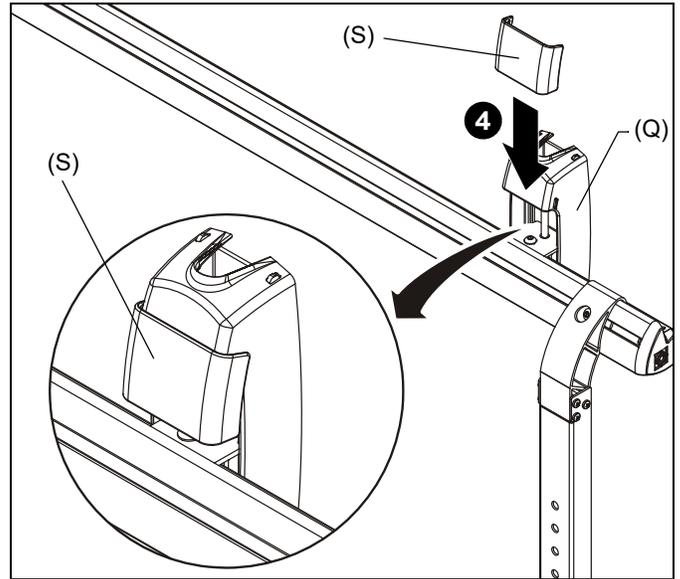

Figure 19
4. Slide the sliding cover (S) down over the wall bracket cover (Q) on three wall assembly brackets. (See Figure 19)